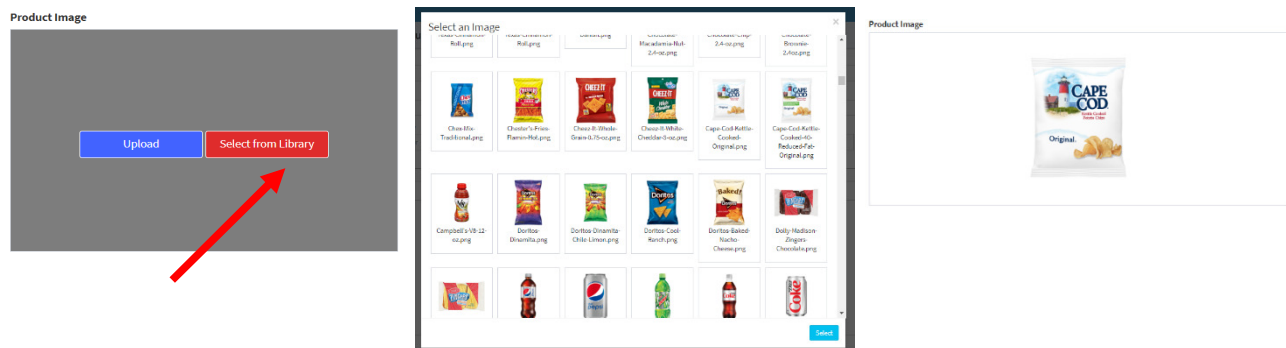

Figure 32
- If you've already loaded your product image to the data base (See **Uploading a New Image File** in previous section) you can click on the **Select from Library** button. Your image library will be displayed and you can select the image and press the **Select** button. Your product image will then be set for the main display (*figure 32*).